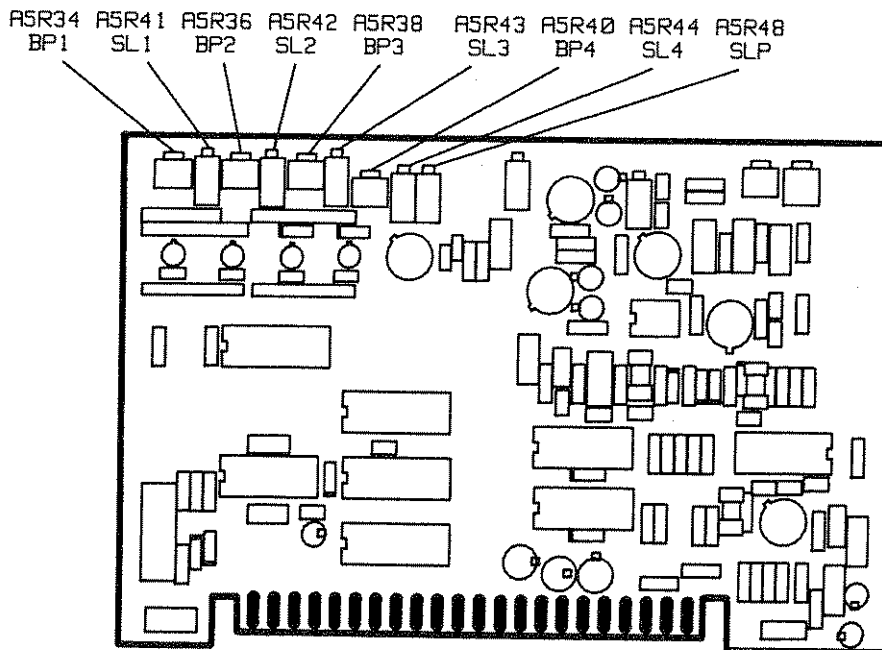

Figure 5-17. Internal Levelled Flatness Adjustment Location
4. Set A5R34, A5R36, A5R38, and A5R40 (BP1 – BP4) fully CW. Set A5R41 through A5R44 (SL1 – SL4) to mid-range. Refer to Figure 5-17.